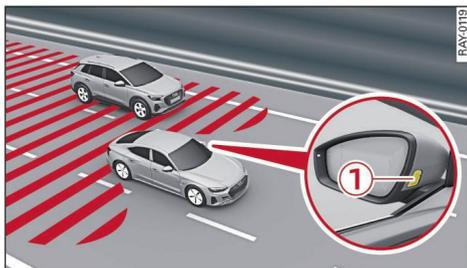

Fig. 85 Driving situation and warning signal on exterior mirror
- The area covered by the sensors ⇒ *Fig. 85* is an example and does not represent the range of the sensors to scale.